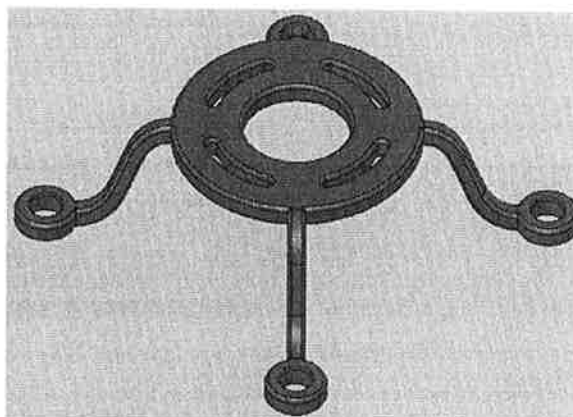

Figure 13–11
2. Change the 12.5° angular dimension to **25.0°**. Complete the sketch. Note how all of the mirrored features update to reflect the change, as shown in Figure 13–11.